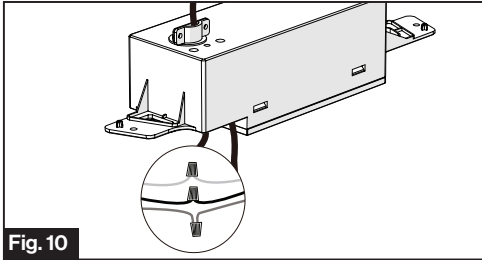

Fig. 10
10. Loosen the strain relief on top of the control box and let the 115VAC power cord pass through. (Fig. 10)